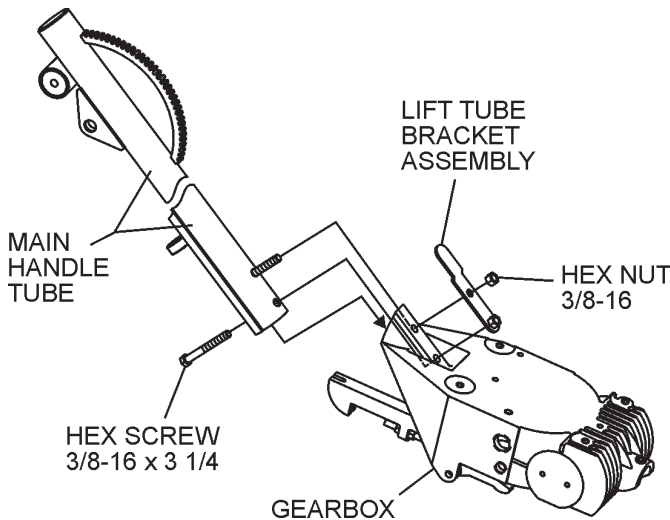

Figure 5. Handle Tube Installation
1. Install the **handle tube** to the gearbox as shown in (Figure 5). The mounting hardware should be contained in the shipping container.